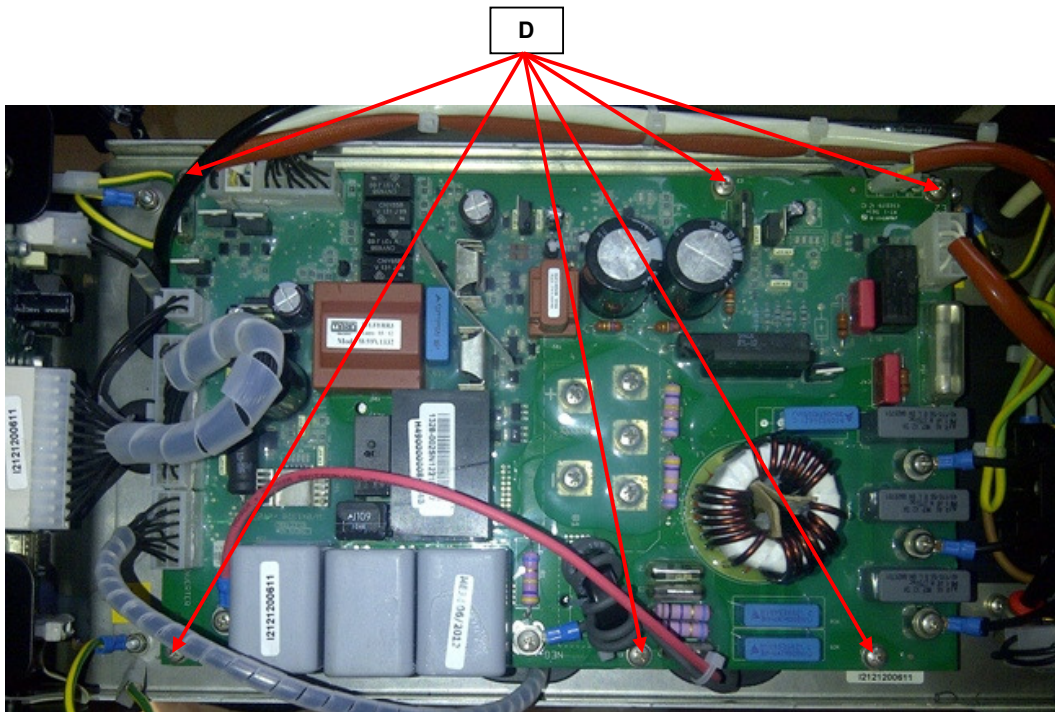

Fig.3
6. Using the screwdriver remove the 6 screws (D) that fix the input board to the machine central frame. See **Fig.3**.